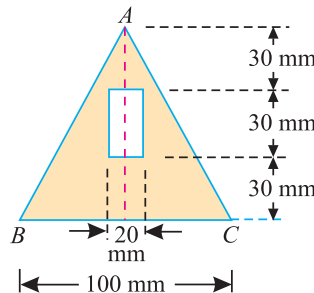

Fig. 7.19.
**Example 7.15.** A rectangular hole is made in a triangular section as shown in Fig. 7.19.